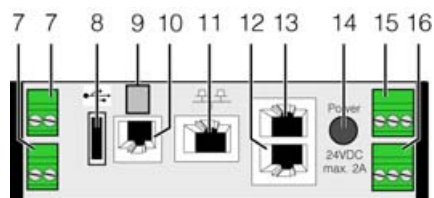

Fig. 58: Liquid Cooling Package control unit (CMC III PU) – rear
Only the second CAN bus connection (fig. 58, item 13) may be used to connect the fan and water modules.
The actual temperature values of the cold air on the air input side (server-in temperature) supplied by the three temperature sensors on the heat exchanger are used to control the air which is blown into the server enclosure. The mean is calculated from the actual temperature values. The control unit constantly compares this (average) actual temperature with the setpoint temperature. If the setpoint temperature is exceeded, the control unit attempts to maintain a constant temperature by opening and closing the control valve. The control valve is only kept closed (or set to the value stored in the parameter "MinValvePosition") if the actual temperature falls below the "setpoint temperature" value, i.e. cold water no longer flows through the heat exchanger. Additionally, the temperature difference between the set temperature and the air expelled on the server outlet side (server-out) is used to determine and control the fan speed. The temperature values of the sensors on the server outlet side may either be averaged, or the maximum temperature is used (see section 8.2.4 "LCP configuration"). The setpoint speed for the fans and the control valve setting are sent to the connected control units via the CAN bus. Up to four additional standard sensors may be connected to the control unit (CMC III PU) to monitor additional physical parameters of the Liquid Cooling Package. To this end, the sensors are connected to the first CAN bus connection on the rear of the control unit (fig. 58, item 11) and configured via the Web interface.